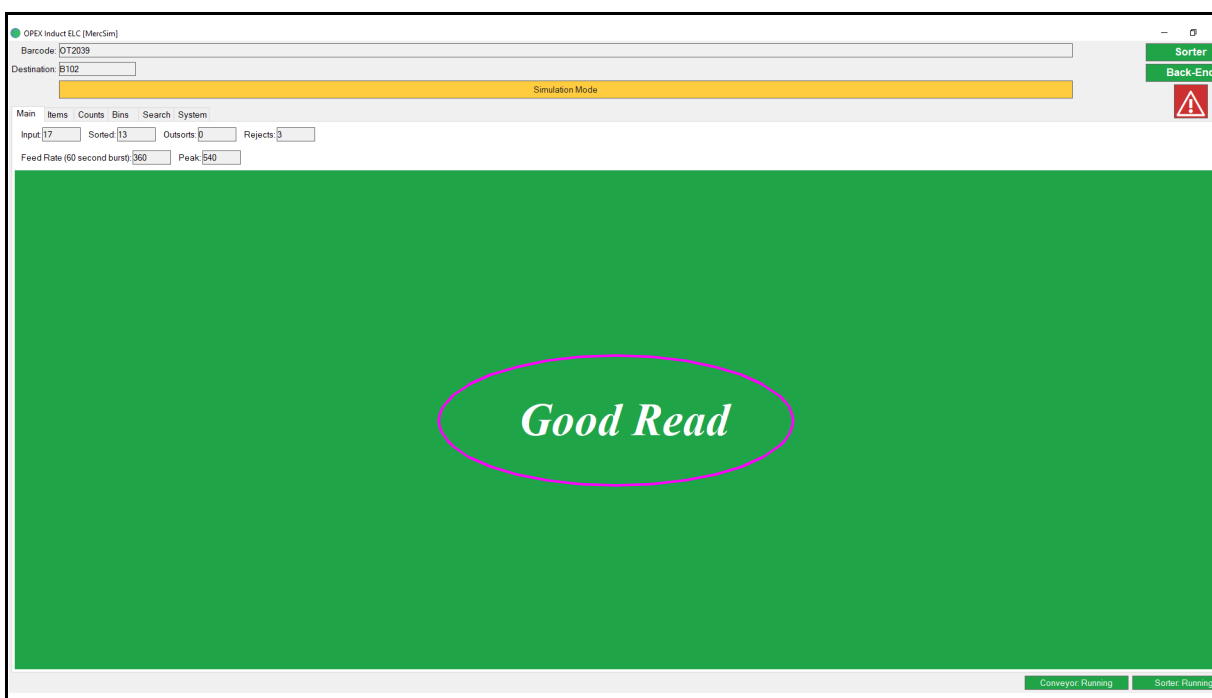

Figure 4-31: OPEX Induct ELC - Good Read
3. Each item is scanned for a barcode. If the barcode read was successful, "Good Read" will be displayed (see Figure 4-31).